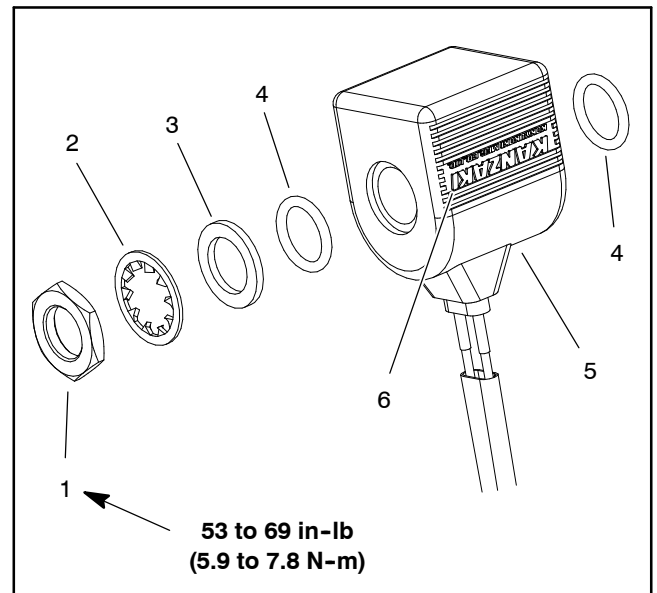

Figure 77
5. Slide the coil assembly from the solenoid valve stem (Fig. 77). For assembly purposes, note that “KANZAKI” molded into the coil has the “I” nearest the nut location as coil direction is important for proper solenoid operation.
1. Slide new coil assembly, seals and washers onto the solenoid valve stem. Make sure to properly position seals and washers (Fig. 77). Coil should be installed so the “KANZAKI” molded into the coil has the “I” nearest the nut location.